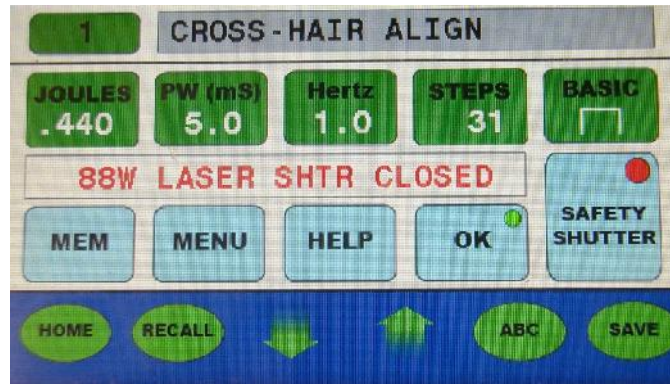

Figure 9
- Press “MENU” on the Main Screen **(Figure 9)**
- Press “EXIT” twice to return to the Main Screen **(Figure 9)** **(Note: Returning to the Main Screen locks parameters on the touch screen display.)**